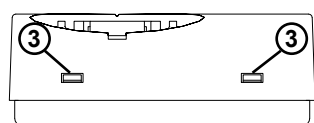

Fig. 2
1. First, remove the dial by inserting a small screwdriver into the hole (2) and gently prying the dial off.
2. Remove the front cover by detaching the two plastic tabs on the right side of the case as shown in Figures 2 and 3.